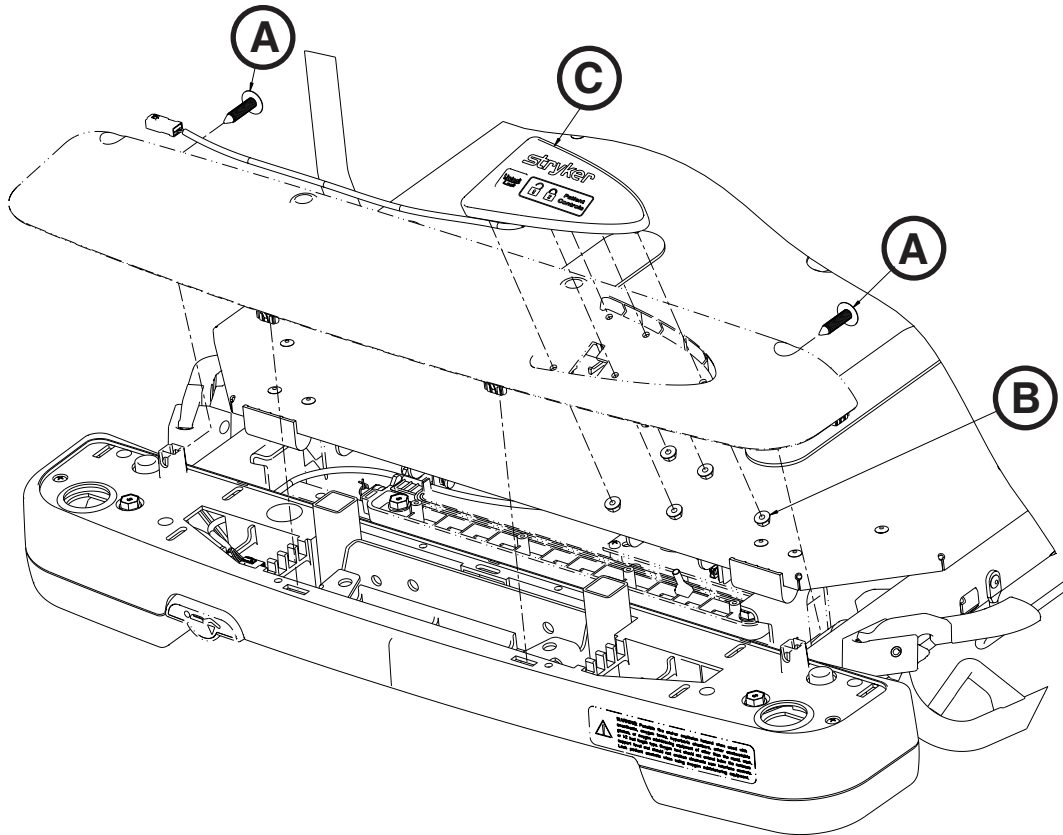

Figure 56
3. Using a slotted screwdriver, pry the two panel fasteners (A) out and set aside (Figure 56).
6. Using a 11/32" nut driver, remove the five hex flange nuts (B) that hold the nurse control lockout board (C) to the cover (Figure 56).